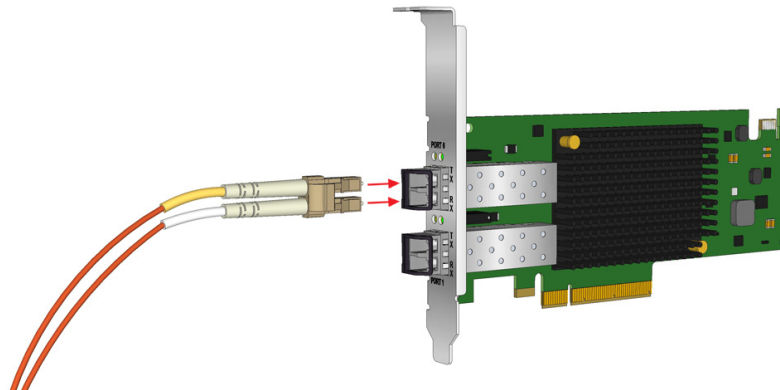

Figure 3-4 Connecting a Fiber Optic Cable for the OCe14000B-series -NM/-UM Adapters
2. After the optical transceivers are installed, insert the optical cable into the LC connectors on the adapter as shown in Figure 3-4 on page 25.